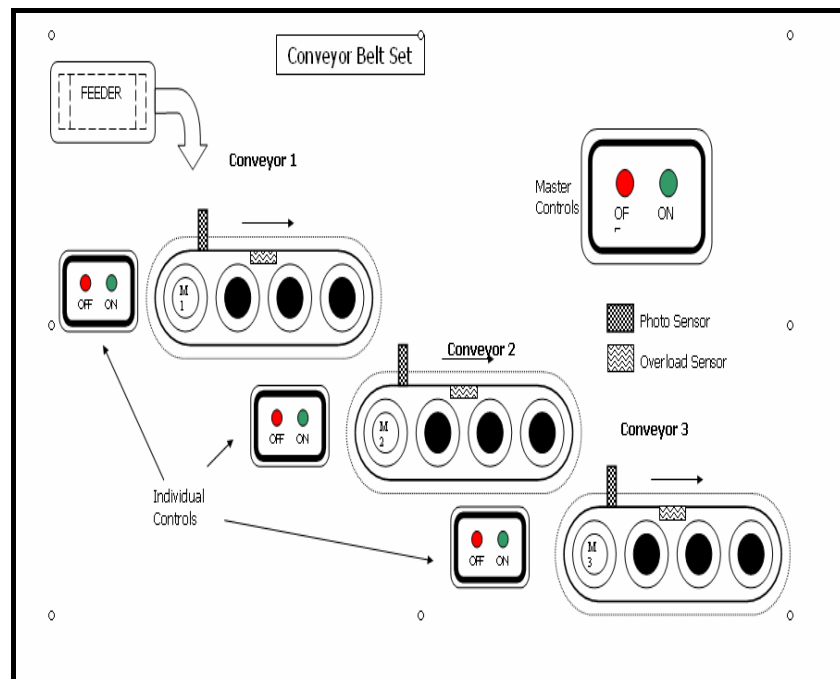

Figure 32
Consider the electrical circuit in figure 32. A customer, who is a newspaper printing workshop owner, wants to send his printed newspaper bundle from the printing room to the distribution point via a conveyor belt set. The conveyor belt set consists of a series of a three long conveyor belts which are run by motors. The conveyor belt runs as follows:
- If motor 3 trip on overload (OVL3), all motors (M1, M2 & M3) trips immediately. Indicator lamps are needed for the following reasons to show progress, as shown in figure 32.